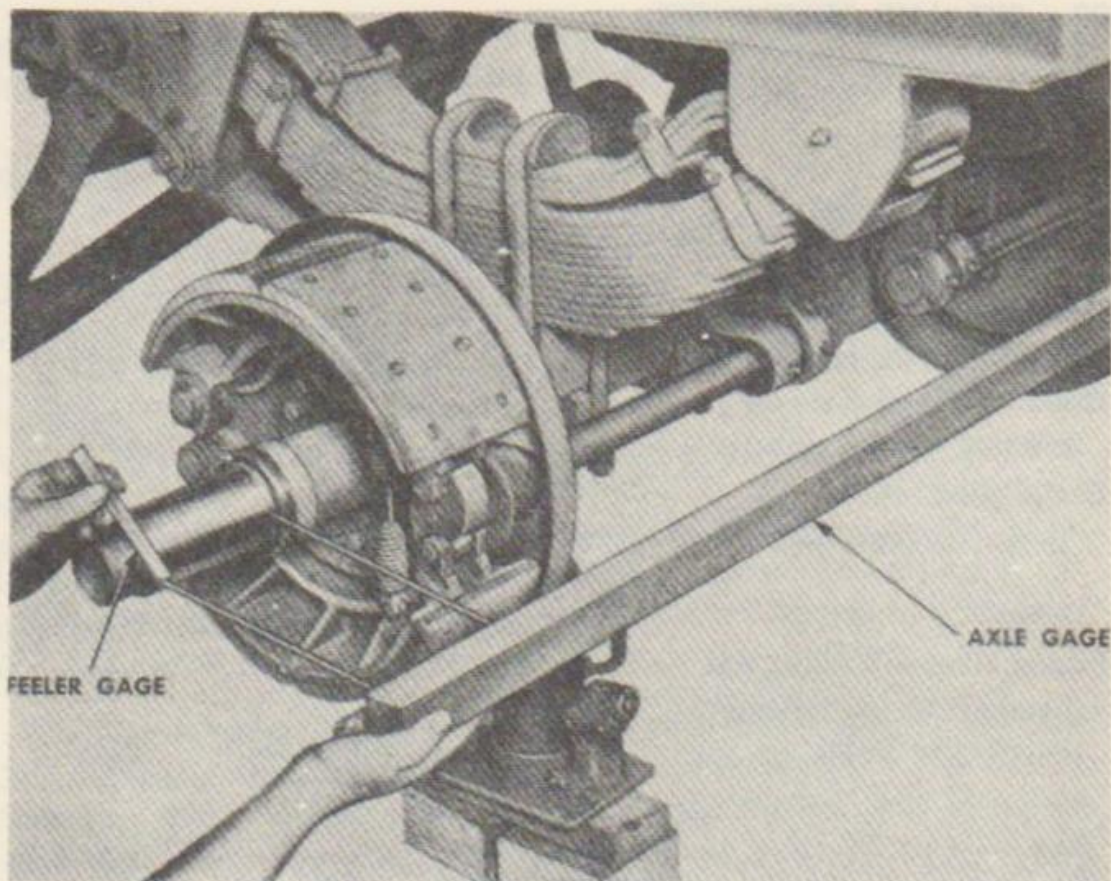

FIGURE 79. CHECKING AXLE FOR BEND
a. Checking Axle for Bend (fig. 79). Checking axle for bend can